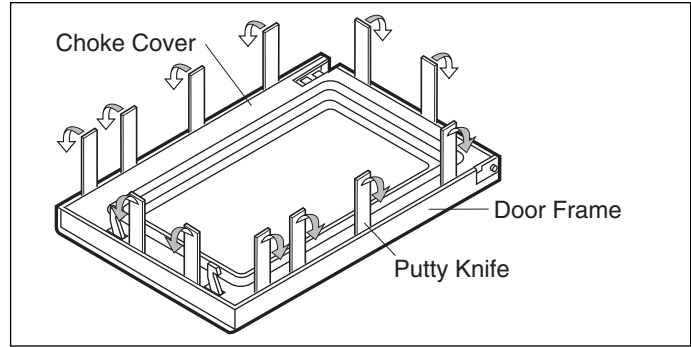

Figure 4-7. Choke Cover
3. Insert a putty knife (thickness of about 0.5mm) into the gap between the choke cover and door frame as shown in Figure 4-7 to free engaging parts.
4. Pry the choke cover by inserting a putty knife as shown Figure 4-7.
7. Release two (2) pins of door panel from two (2) holes of upper and lower oven hinges by lifting up.